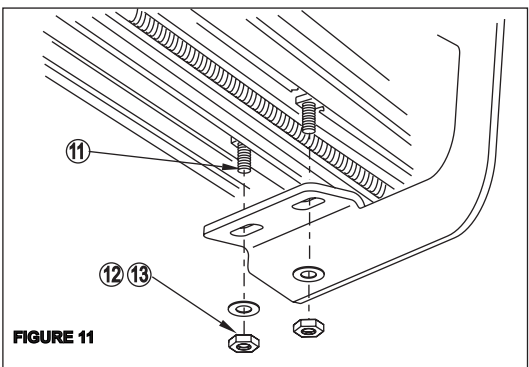

FIGURE 11
STEP 7. Attach board to brackets as shown. Make sure board and brackets are properly aligned and tighten fasteners. Recommended torque values are 10 FT.LBS. for 5/16" square head fasteners, 26 FT.LBS. for 3/8" fasteners, and 7 FT.LBS. for 1/4" fasteners. **SEE FIGURE 11.**